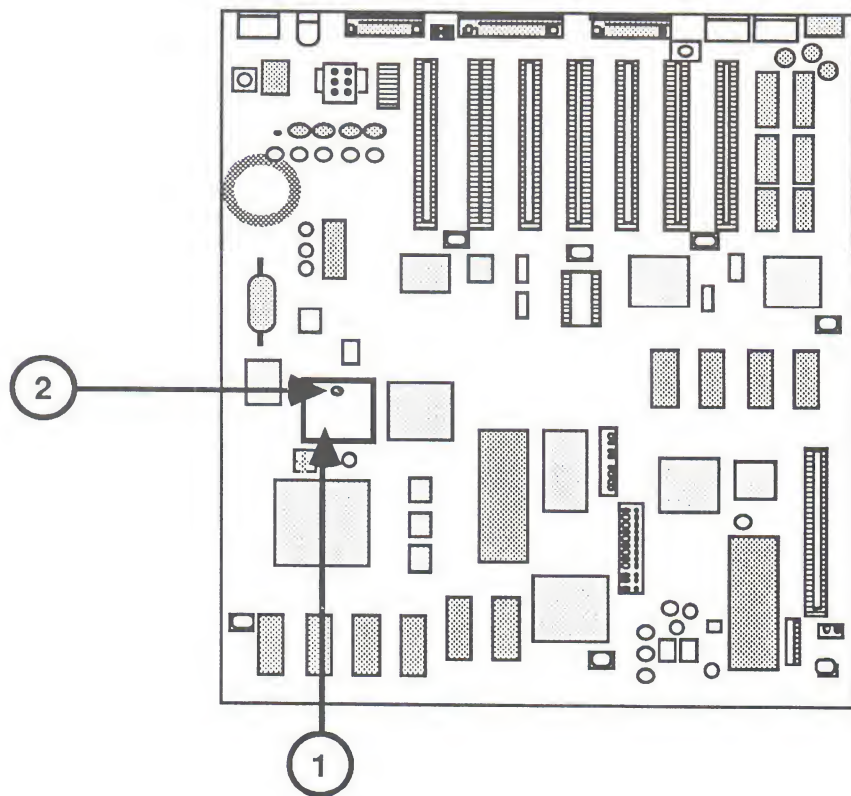

FIGURE 12
4. Locate the VGC at location H5 (Figure 12, #1) and verify that it needs to be replaced by comparing the vendor and number on the IC with the list above.
6. Remove the old VGC installed at location H5 (Figure 12, #1) using the VGC extraction tool.
7. Using the VGC extraction tool, install the new VGC in the same location, H5 (Figure 12, #1). The dot at pin 1 on the IC should face the rear of the machine (Figure 12, #2).